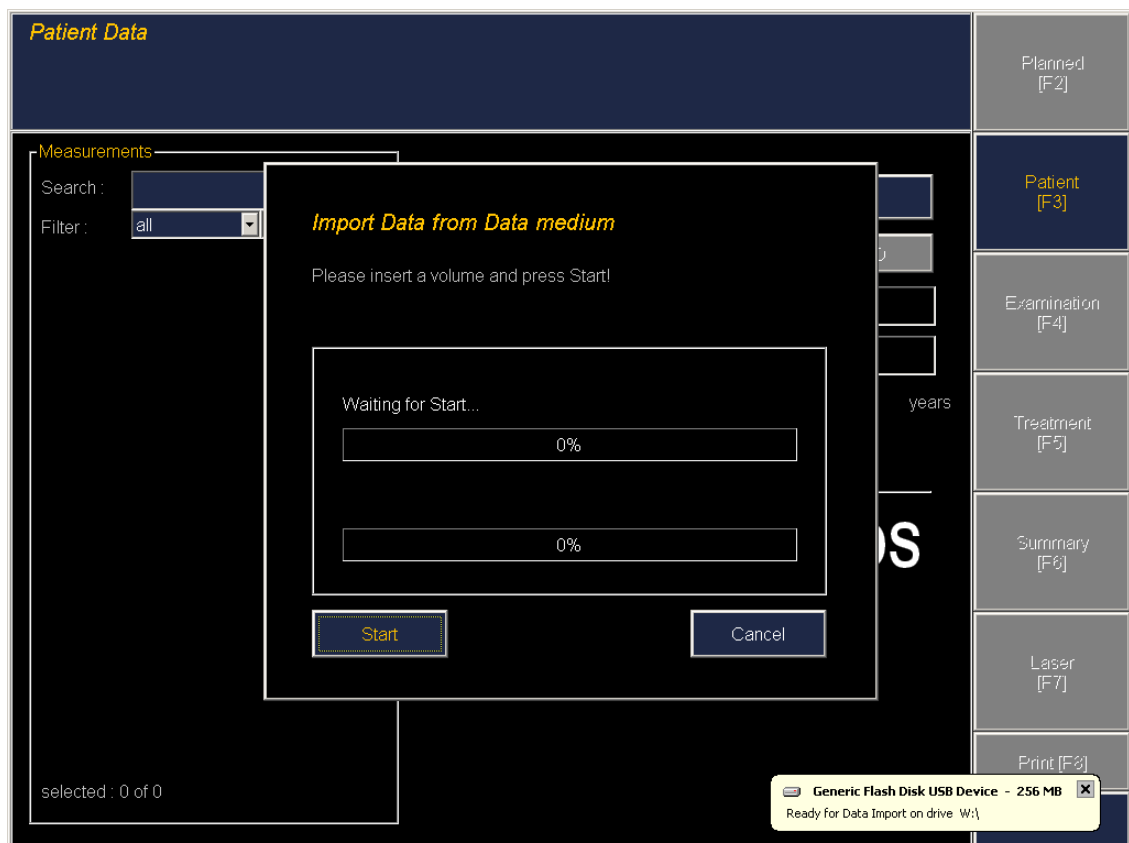

Figure 77: Popup Window - Load Data From USB-stick And USB-stick Identification
- Once the USB-stick has been identified (see figure 77 on page 113), press the  - button to start the data transfer.